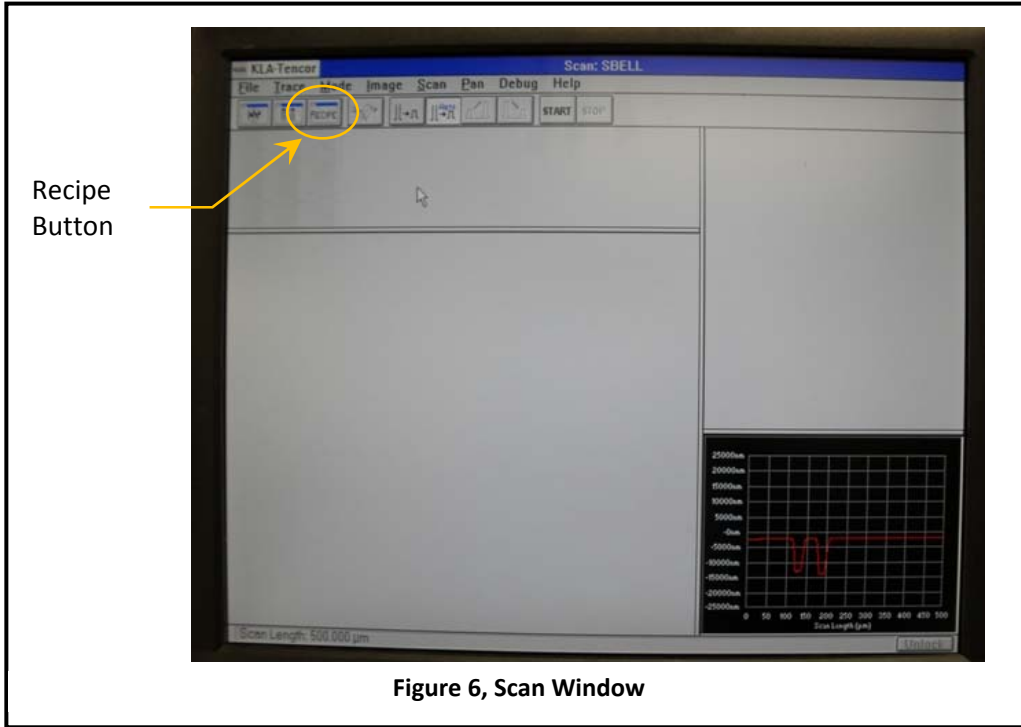

Figure 6, Scan Window
6.2.1.1 From the Scan window, click the Recipe button. See *Figure 6, Scan Window*.